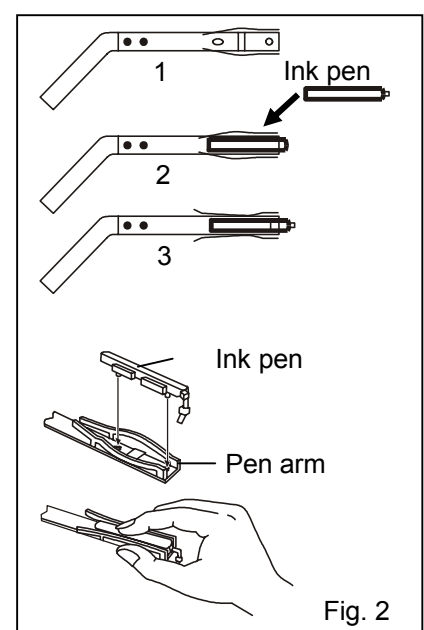

Fig. 2
NOTE: Loading a ink pen, turn the power OFF and then ON again to return to the normal mode. (Refer to Fig. 2 when loading a ink pen.
3. Press both sides of the ink pen arm as indicated by the arrows to open the head clamp at A and B. (See to Fig. 2 illustration 1)
4. Position the ink pen so that the guide pins fit into the guide holes on the ink pen arm. (See to Fig. 2 illustration 2)
5. Press the two sides of the head clamp as indicated by the arrows to secure the ink pen. (See to Fig. 2 illustration 3) From the side view, the ink pen should fit perfectly on the arm. Confirm that the ink pen arm is attached to both sides of the ink pen.